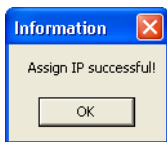

Figure 24: IP Address Assignment Successful
- If the IP Address is not in use and the unit responds, then IP Address assignment begins. This process may take up to a minute. Once the process is completed, a success window appears (see Figure 24).